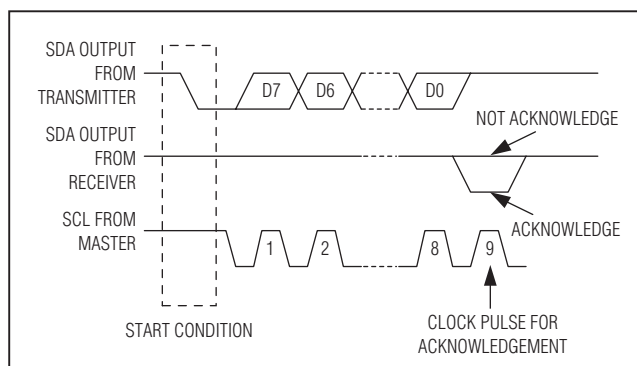

Figure 12. I²C Acknowledge
low before the rising edge of the acknowledge-related clock pulse (ninth pulse) and keep it low during the high period of the clock pulse (Figure 12). To generate a not acknowledge (NA), the receiving device allows SDA to be pulled high before the rising edge of the acknowledge-related clock pulse and leaves it high during the high period of the clock pulse.